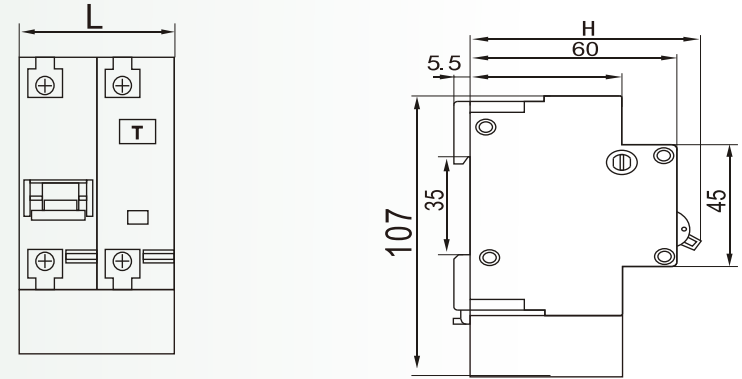

Figure 4
3.4 The outline and rail dimensions are shown in Figs. 4 and 5, and the mounting dimensions are shown in Table 3.